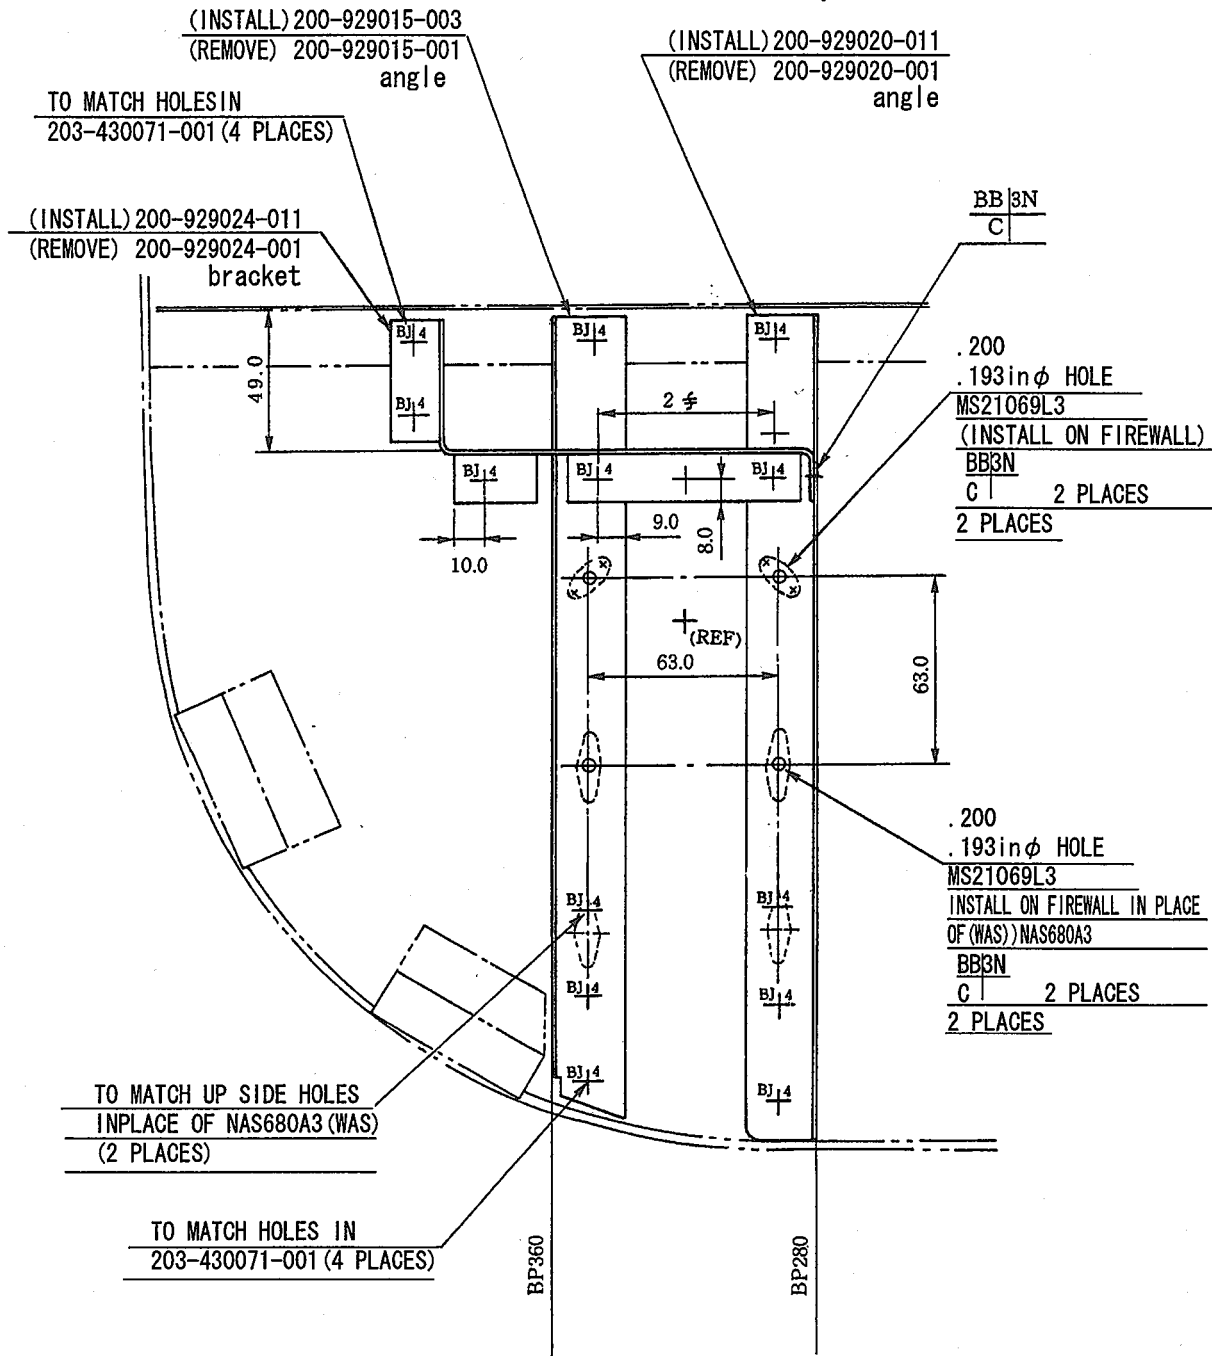

Figure 1 Structural Modification
- (1) Set all switches and fuel selector valve in "OFF" position, and ground aircraft to approved ground rod.
- (2) Remove engine cowlings in accordance with Service Manual, Paragraph 4-3-1.
- (3) Remove auxiliary fuel pump cooling cover.
- (4) Remove hose P/N SRC-79-6-0220 (reuse) between fuel strainer and engine driven fuel pump, tube assembly P/N 203-929102-001 between fuel strainer and auxiliary fuel pump, hose P/N SRC-79-6-0220 between auxiliary fuel pump and engine driven fuel pump, and hose P/N 74590 or LW-12877-6-161 (reuse) between engine driven fuel pump and injector.
- (5) Remove existing auxiliary fuel pump P/N 4140-00-1 in accordance with Service Manual, Paragraph 6-9-1.
- (6) Remove union AN815-6D (reuse) from the above pump.
- (7) Remove tee AN783-6 and check valve P/N 200-389008-003 from engine driven fuel pump.
- (8) Remove tee AN825-6D from fuel strainer.
- (9) Cap or plug openings of lines to prevent contaminations.
- (10) Remove bracket P/N 203-929105-001 or 203-929108-003 from firewall.
- (11) Drill out attaching rivets and remove the following parts as called out at legend (REMOVE) in Figure 1.
- (12) See Figure 1. Install brackets P/N 200-929024-011, 200-929015-003, and 200-929020-011 in place of the bracket and angles removed in the previous step. Install four nutplates MS21069L3.